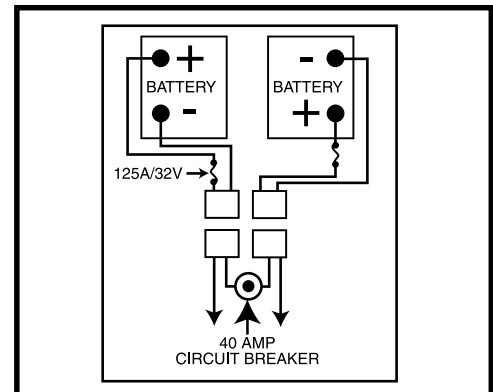

Figure 14. Battery Wiring Diagram
7. Place a new battery in each battery box. Face the battery terminals toward the seat post. See figure 14.